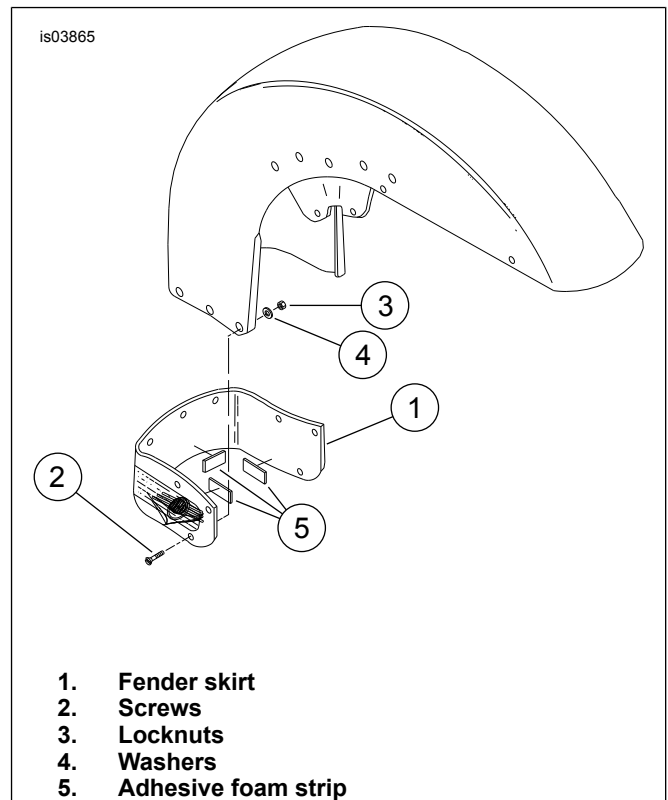

Figure 1. Front Fender Skirt and Hardware
4. See Figure 1. Cut the adhesive foam strip (5) into three equal parts. Remove the backing from the adhesive strips and apply adhesive on middle and two sides at the inside/bottom of the fender skirt (1). The foam strips will prevent rattling and unwanted noise.